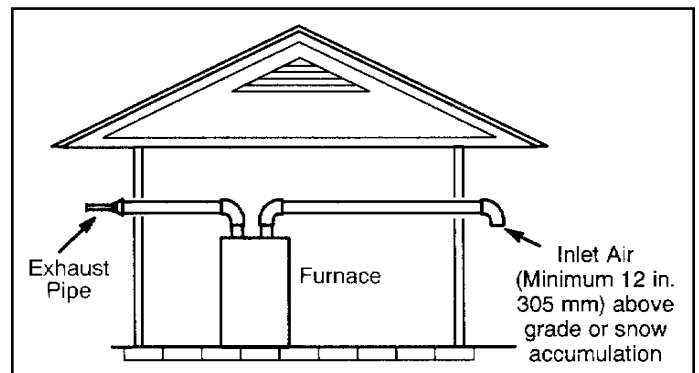
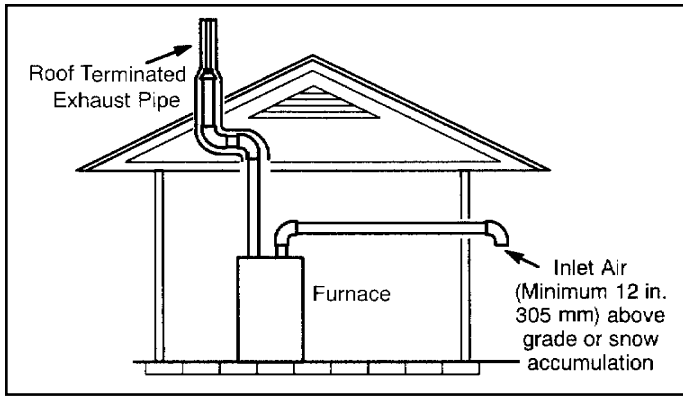

Figure 27. Exiting Exhaust and Intake Vent
Figure 28. Exiting Exhaust and Intake Vent
1. Intake and exhaust terminations are not required to be in the same pressure zone. You may exit the intake on one side of the structure and the exhaust on another side (Figure 27). You may exit the exhaust out the roof and the intake out the side of the structure (Figure 28).